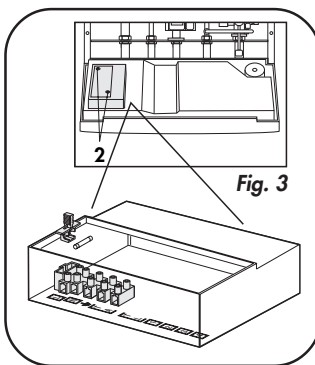

Fig. 3
- Undo the two cover attachment screws to gain access to the electrical connections (fig. 3).